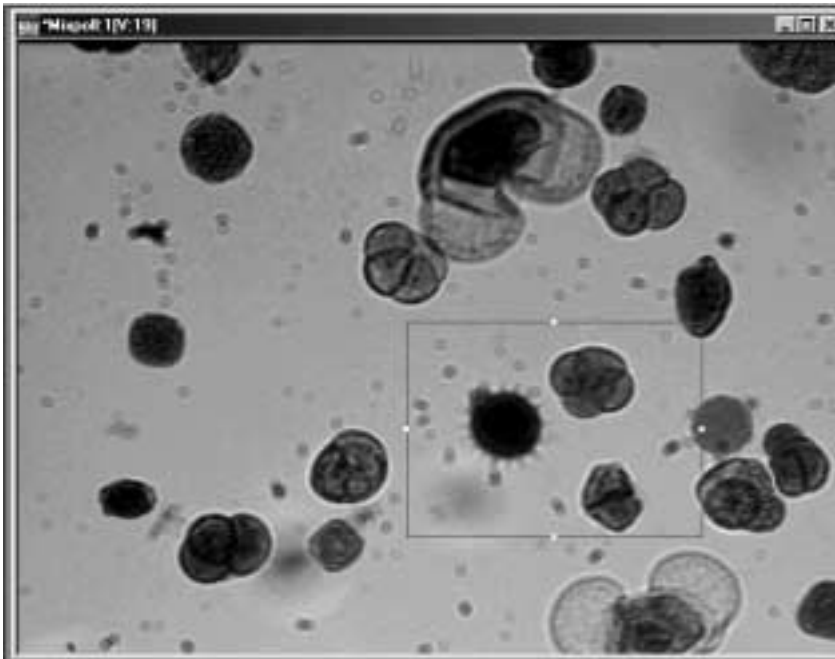

Figure 22: The Image Mixpoll
This example shows how to find all the blobs inside the active ROI in the image Mixpoll, shown in Figure 22.
1. Set the input image. Open a Blob Analysis tool (if one is not already open). Click on the image Mixpoll in the viewport in the main application; it becomes the active viewport and is denoted with an asterisk, as shown in Figure 22. Now, click **Input Image** in the Blob Analysis tool main dialog box.